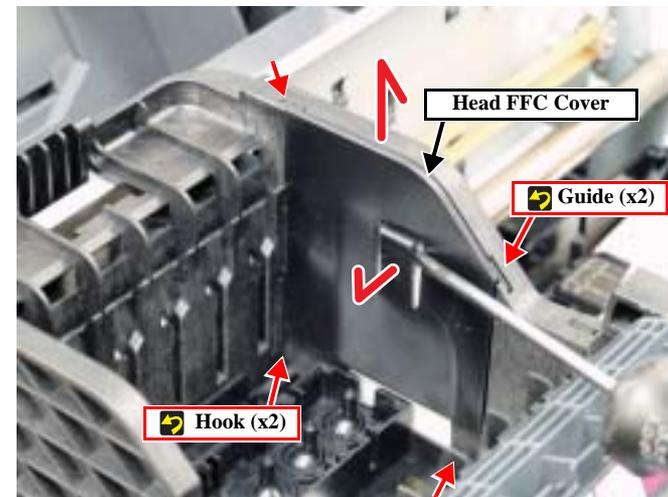

Figure 4-26. Removing the FFC Cover
- Insert a slotted screwdriver under the hook of the Head FFC Cover, and move it upward and remove the Head FFC Cover. (Fig. 4-26)